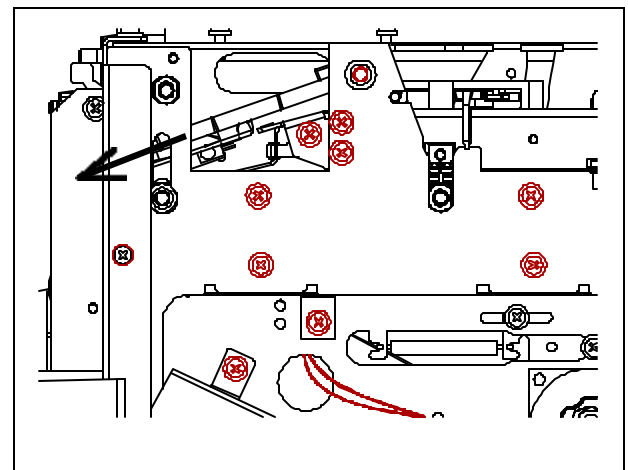

Figure 3
8. Remove the printhead by sliding it forward (Figure 3).